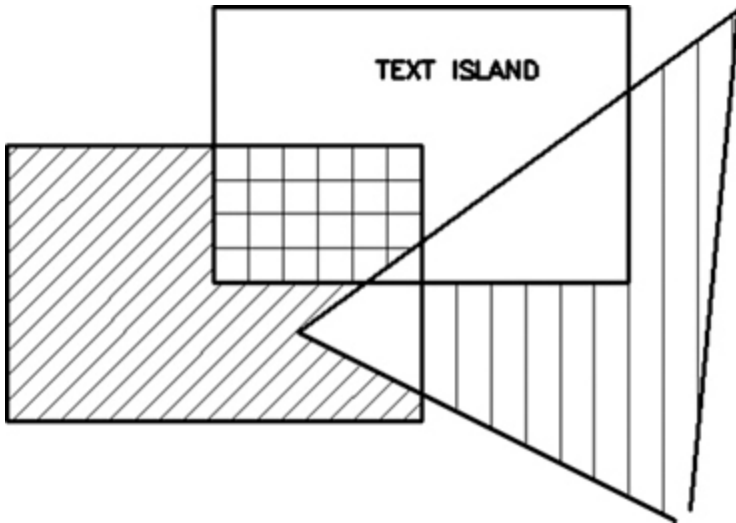

Figure 10-16
- 6** Save your drawing. Your drawing should look like Figure 10-16.